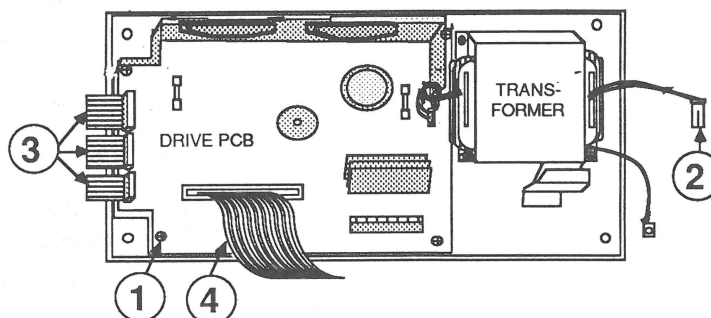

FIGURE 19
12. Disconnect the plug cable running from the right leg to the transformer on the bottom cover (Figure 19, #2).
2. Connect the plug cable running from the right leg to the bottom cover (Figure 19, #2).
3. Lift the rear portion of the bottom cover, and connect the 50-pin ribbon cable (Figure 19, #4).
6. Connect the three cables on the left side (Figure 19, #3). There are two ways to connect the three cables:
9. Connect the grounding connector to the spade on the corner of the drive PCB (Figure 19, #1).